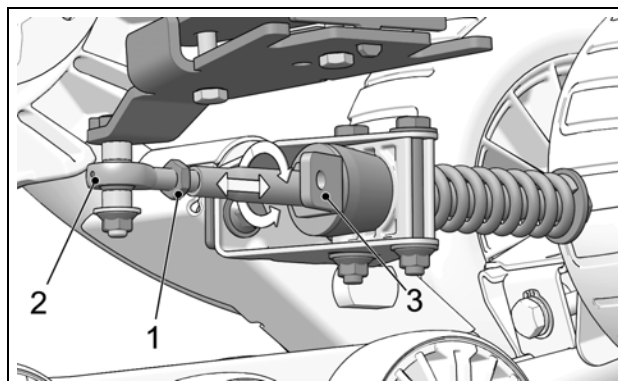

Figure 7
- Loosen jam nut (1). Adjust length of rod end (2) by rotating the steering limiter support plate on (3) the stabilizing arm. Use a 30 mm [1 3/16 in] wrench to rotate support plate to obtain a perfectly centered bubble in the level. Refer to Figure 7.
**NOTE:** The stabilizing arms on front Track Systems incorporate a steering limiter support plate (3) which is bent. This plate should be positioned inwards, towards the vehicle.